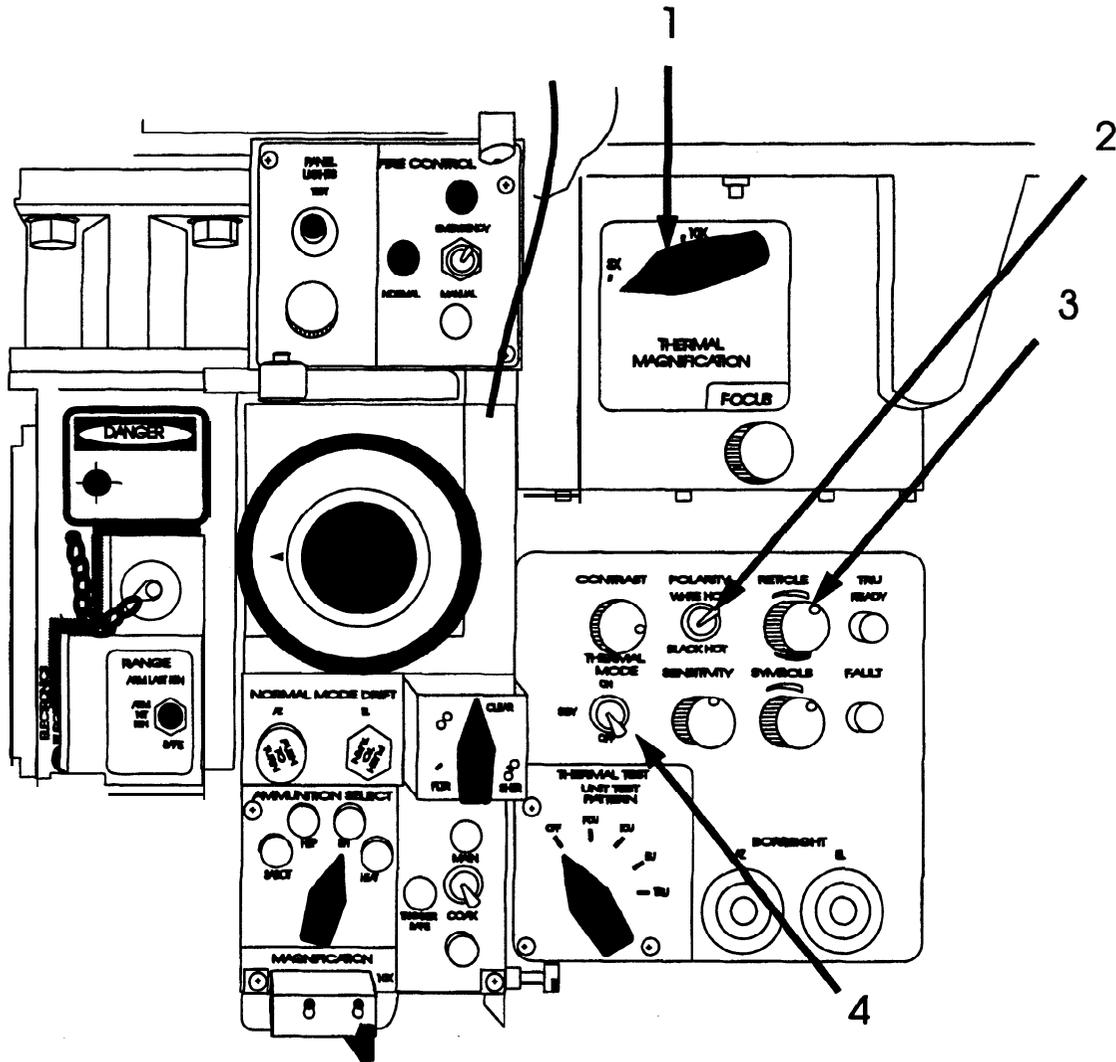

Figure 2-18 TIS Control Unit
2.3.2.3 Thermal Imaging System (TIS) Control Unit. The TIS Control Unit, shown in Figure 2-18, is the actual tank panel.